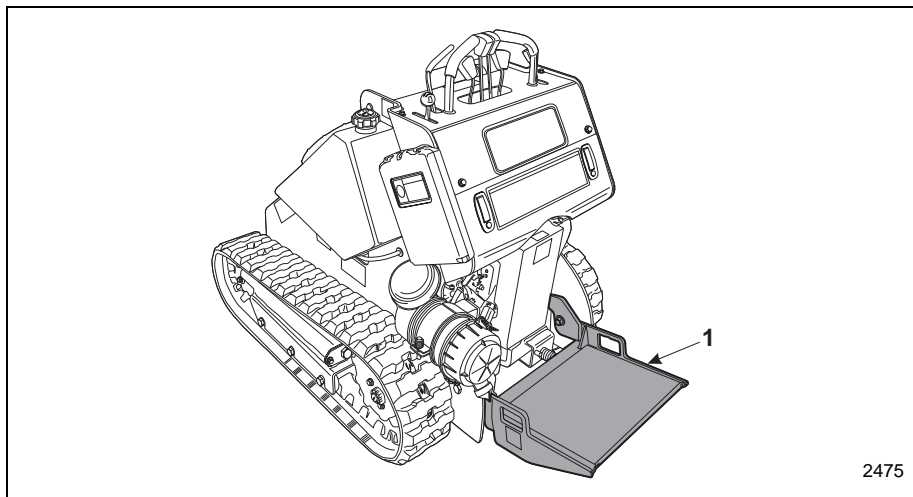

Figure 3-11 Operator's Platform
1. Stand on the operator's platform (Item 1, Figure 3-11).